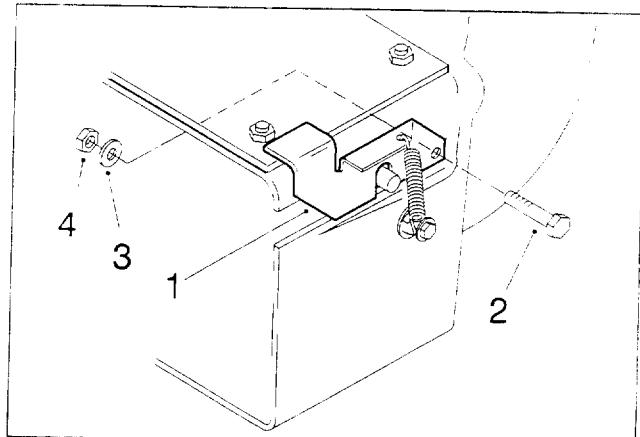

Figure 5
6. To install the latch, hook the end of the spring in the small hole in the latch. Slide the $1/4" \times 3/4"$ hex-head bolt through the latch and the hole in the blower housing. Secure in place with a $1/4"$ washer and $1/4"$ nylon lock nut (Fig. 5) but make sure the latch pivots freely.